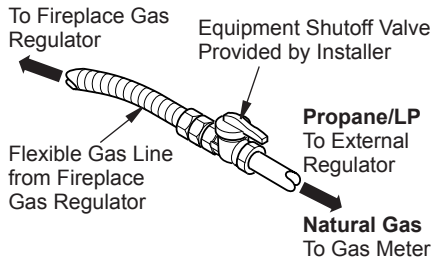

Figure 20 - Attaching Flexible Gas Lines Together
4. Attach the flexible gas line to gas supply. Check tightness of flexible gas line attached to gas regulator of fireplace. See Figure 20.